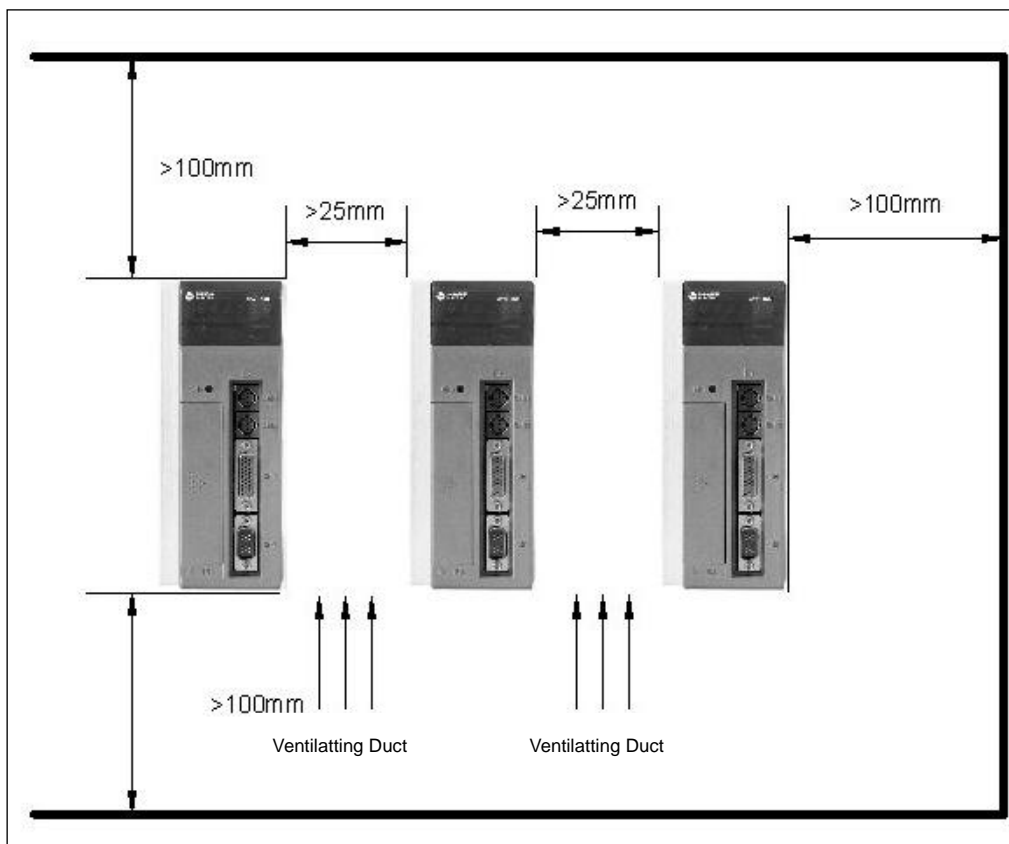

Fig. 1.1 Installation diagram for the drive
- The spacing distance between the servo drives and other devices may be referred to Fig. 1.1. Note that the marked size is the min. value. To ensure a long service life and performance of the servo drives, it is recommended to reserve sufficient spaces during installation.